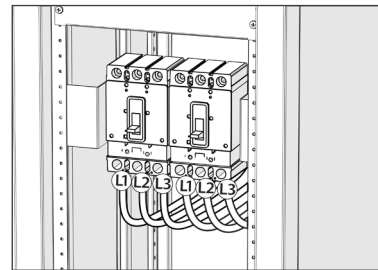

Figure 16. Connecting critical loads
Step 4. Terminate Line 1 (L1), Line 2 (L2), and Line 3 (L3) cables to load side of circuit breaker(s) (see Figure 16).